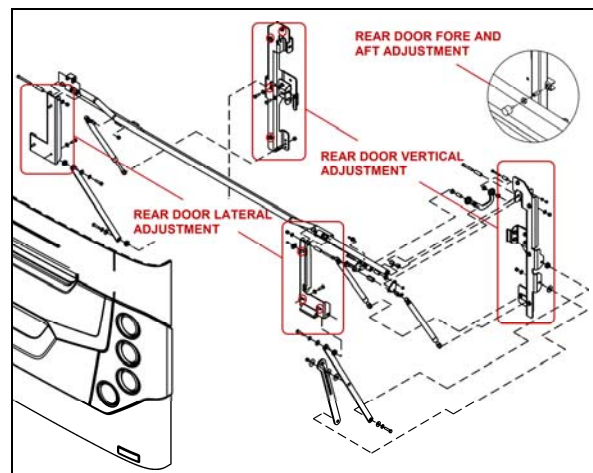

FIGURE 32: ENGINE COMPARTMENT DOOR
1. To adjust the door VERTICAL position, loosen the bolts (4 on each side) holding the door supporting arm and gas springs bracket to the vehicle structure (Figure 32).
2. To adjust the door LATERAL position, loosen the bolts (3 on each side) holding the door supporting arm and gas springs bracket to the door (Figure 32).
3. Adjust the door FORE & AFT position by screwing/unscrewing the rubber door stops on each side of the door opening (Figure 32).